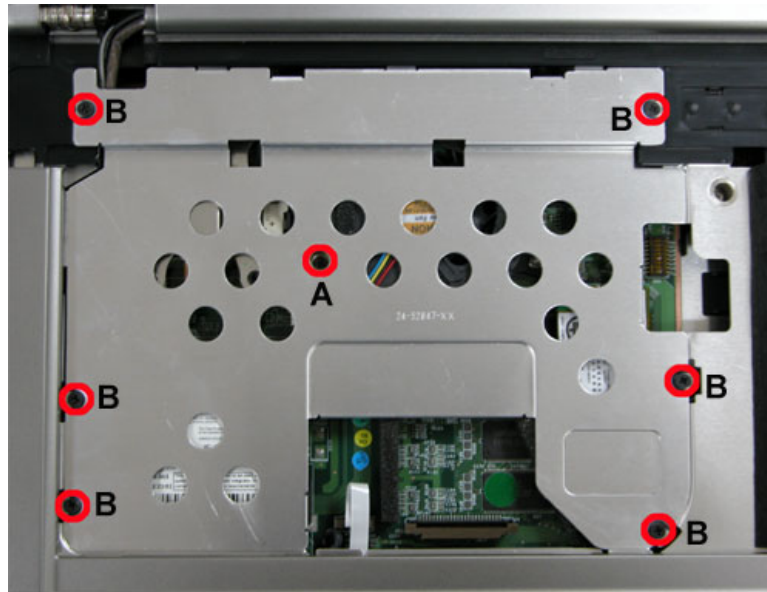

Fig. 11 Heat Plate
3. Release all screws on heat plate as shown in Fig. 11